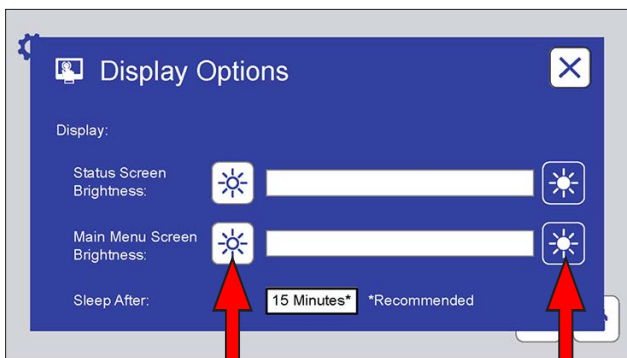
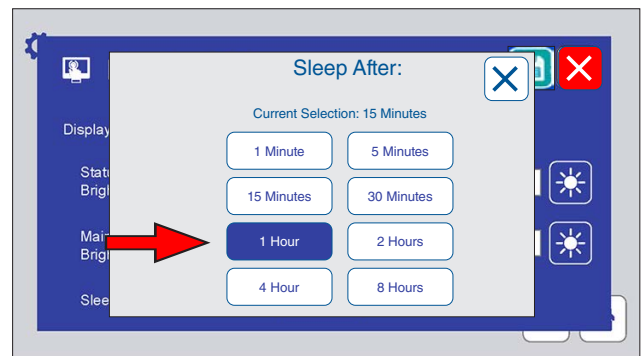

Figure 9.7e: The Display Options screen provides controls to adjust the brightness of the status and menu screens. Touch a brightness icon to adjust.
Figure 9.7h: Touch a time button to change the time before screens go to sleep. If changed, touch the save icon to save the new time.
- o Display Options (Figure 9.7e through Figure 9.7h)